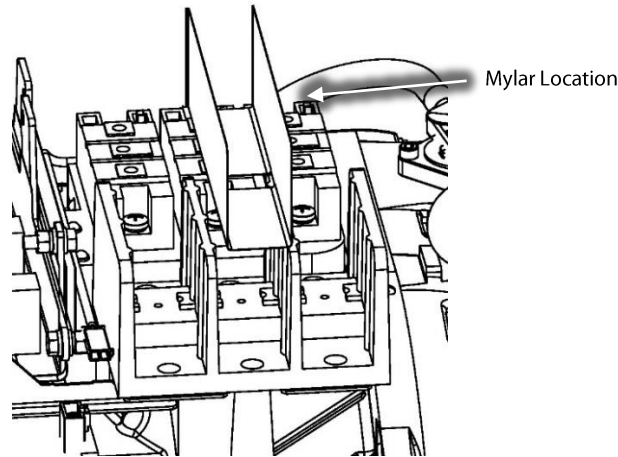

Figure 28 – Main Power Mylar Insertion
13. Loosely install the three (3) M8x70 fasteners that secure the motor bus bars to the inverter output through the copper tubes. Continue to Step 14 if the compressor contains PPS High-Power Feedthroughs. Continue to Step 15 if the compressor contains Stainless Steel High-Power Feedthroughs.
14. For the PPS High Power Feedthroughs, install the three (3) M10x16 fasteners and lock washers that secure the motor bus bars to the PPS High-Power Feedthroughs and torque to 14 Nm (10 ft.lb.). Be careful not to over tighten the bolts to the power feedthroughs. Continue to Step 16.
15. For the Stainless Steel Feedthroughs, install the three (3) M10 nuts and lock washers that secure the motor bus bars to the Stainless-Steel High-Power Feedthroughs and torque to 15.5 Nm (11.5 ft.lb.). Be careful not to over tighten the nuts to the power feedthroughs. Continue to Step 16.
16. Torque the three (3) M8x70 fasteners that secure the motor bus bars to the inverter output to 14 Nm (10 ft.lb.).
17. Reconnect the two (2) connectors to the Thermistor Sensor Feedthroughs.
19. Install the new Manifold Mylar on the DC Bus Bar as shown in Figure 28 (DC Bus Bar Spare Mylar Placement).